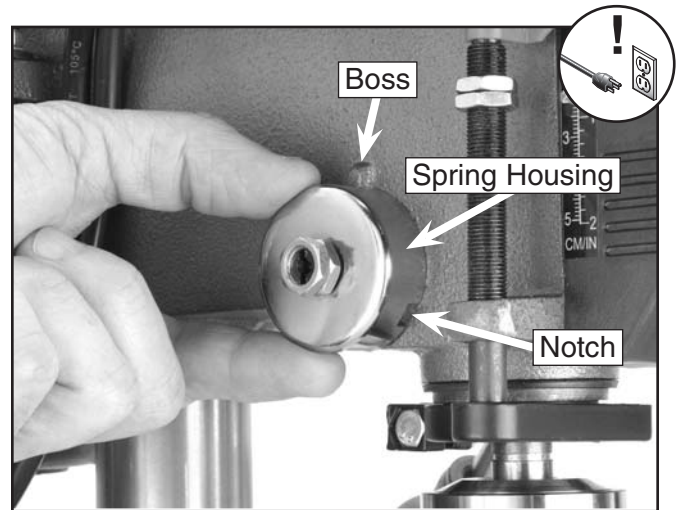

Figure 21. Adjusting spring housing.
3. Pull the spring housing out (**Figure 21**) enough to clear the boss and turn it until the next notch is engaged. To increase tension, turn the spring housing counterclockwise; to decrease tension, turn it clockwise.